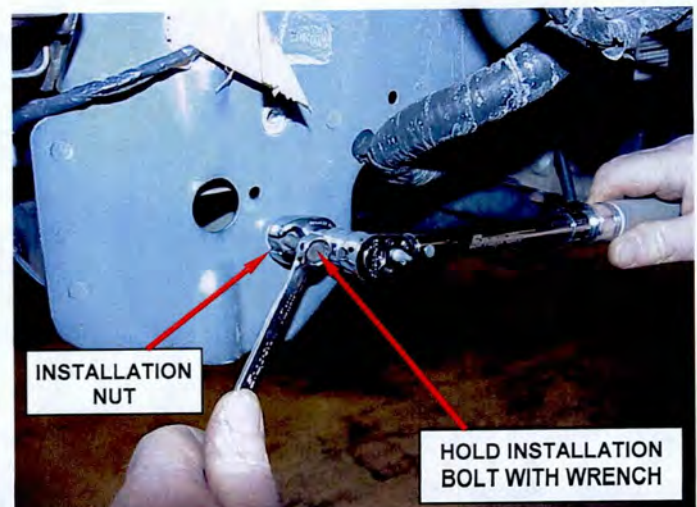

Figure 5 – Riv-Nut Installation
- p. Using a 10mm crows foot, tighten the installation nut to 80 in. lbs. (9 N·m) while holding the head of the installation bolt stationary (Figure 5).